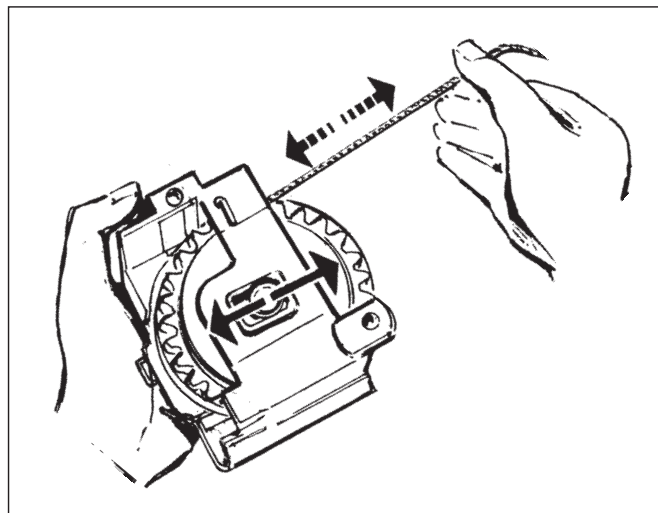

Fig. 27
- The gear should now move up and down the slot when the rope is pulled and released. (Fig 27).